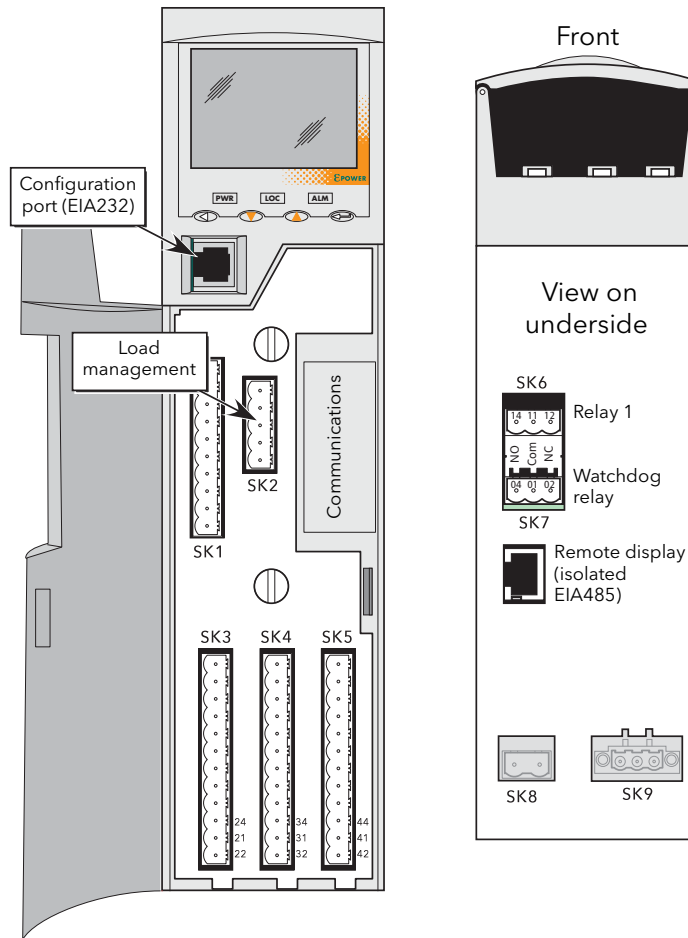
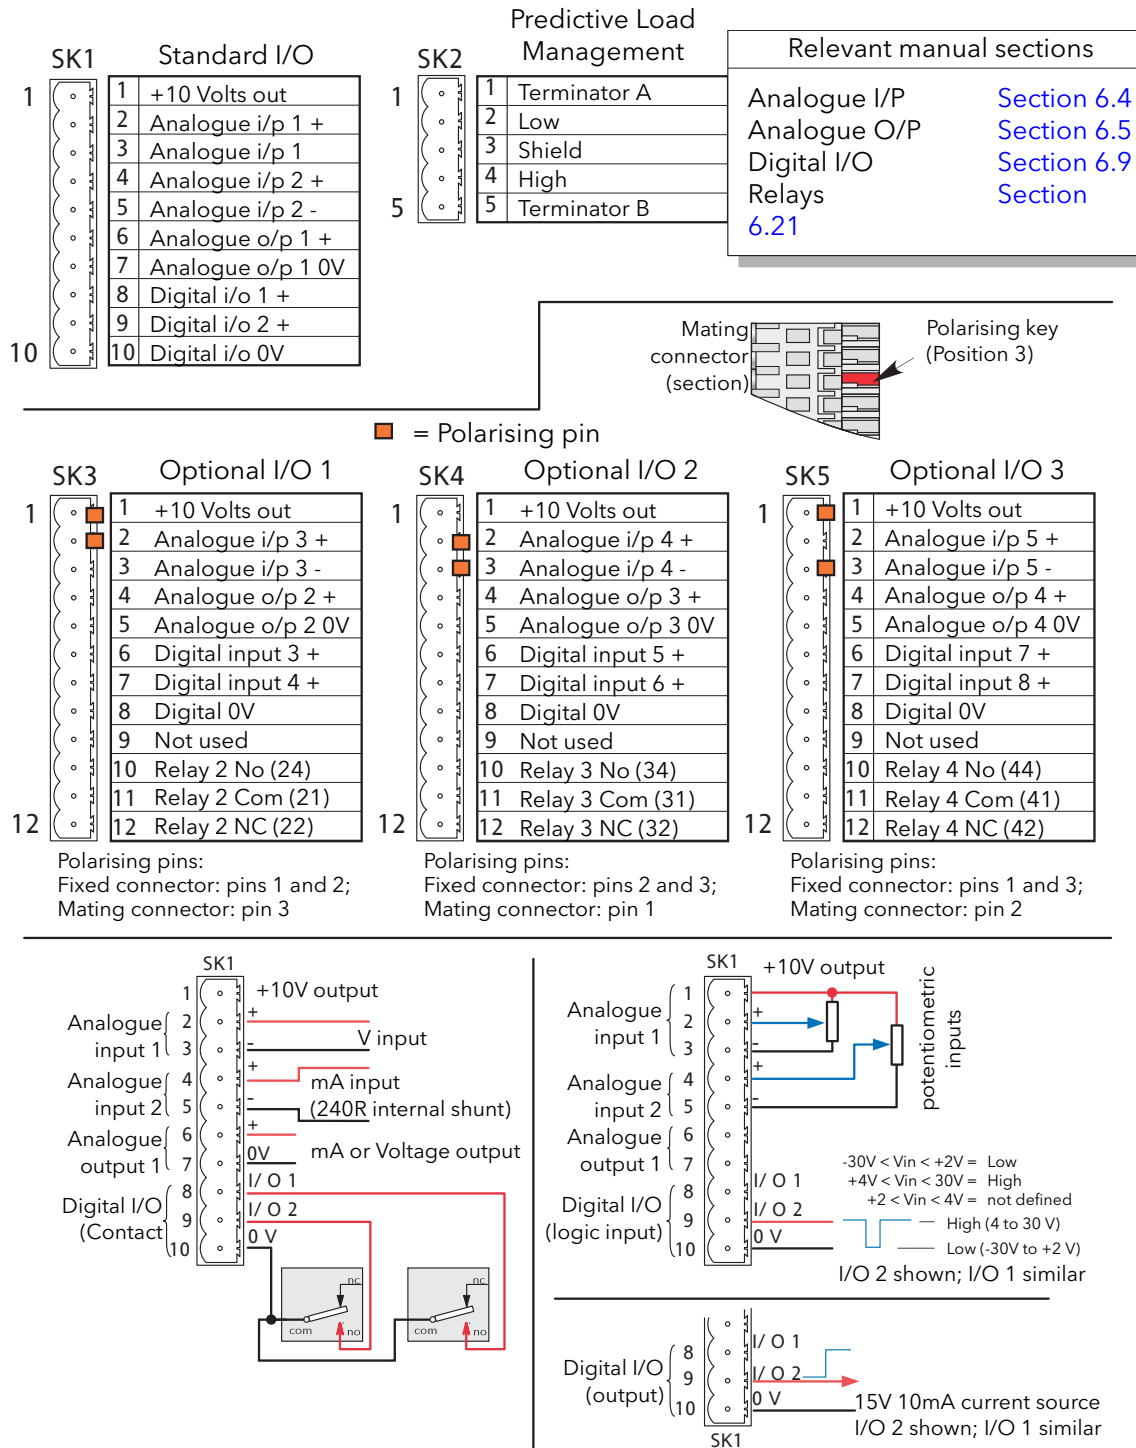
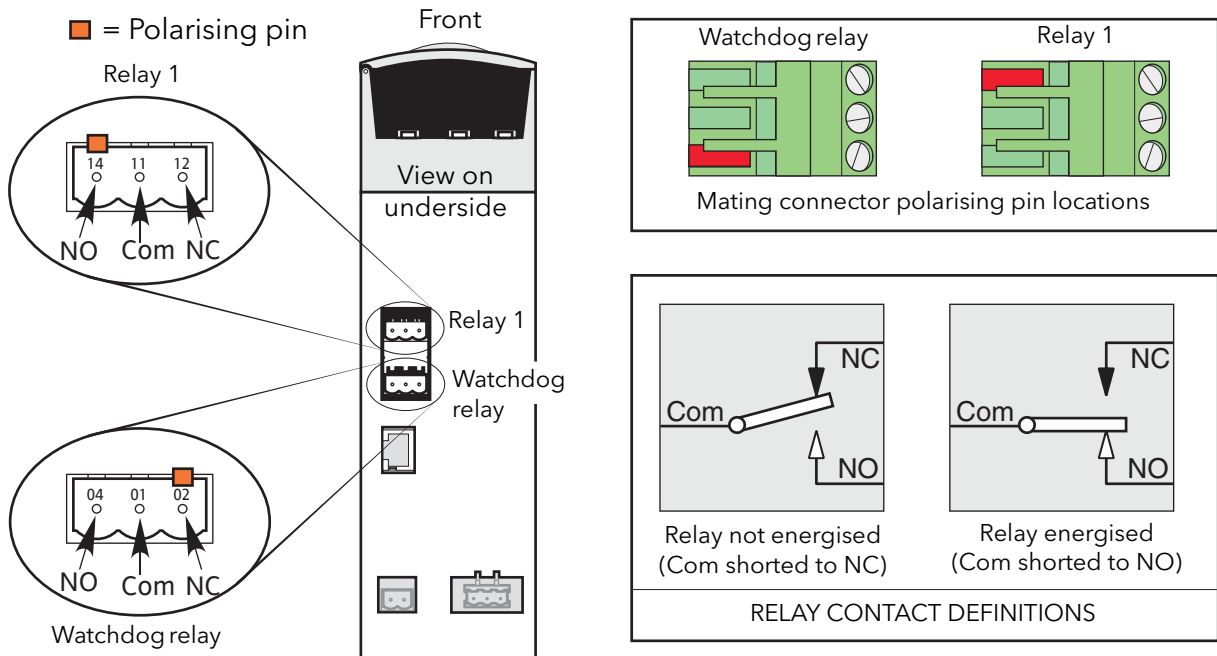

Figure 2.2.1b Connector locations
Figure 2.2.1c Drive unit connector pinouts
Figure 2.2.1d Relay connector location and pinout.
In order for the power module thyristors to operate, the Enable input to the driver module must be valid. In the default configuration, this is achieved by shorting pins 8 and 10 of SK1 (Digital input 1 - figure 2.2.1b), or by using a User Value block to apply a logic high to the enable input to the relevant firing block in iTools. If required, DI1 can be reconfigured as a voltage input, and in this case it requires a high signal (figure 2.2.1c) to be applied to SK1 pin8 with the relevant zero voltage connected to pin 10.
Figure 2.2.1b shows the location of the various connectors; pinouts and typical wiring for SK1 (fitted as standard) are shown in figure 2.2.1c. Wiring for optional I/O units (SK 3 to SK5) is similar, except that they contain a relay in addition to the analog and digital circuits, and the digital circuits are inputs only.
The 'watchdog' relay is wired to a connector on the underside of the Driver Module (figure 2.2.1d).
This relay, supplied as standard, is located adjacent to the watchdog relay (figure 2.2.1d). The energisation/de-energisation of the relay coil is under software control and is fully configurable by the user. The terms Normally open (NO) and Normally closed (NC) refer to the relay in its de-energised state. Up to three further relays are available if optional I/O Modules are fitted (see figure 2.2.1c).
This option allows a number of systems to communicate with one another to allow load management techniques such as Load Sharing and Load Shedding to be implemented. The connector is located as shown in figure 2.2.1b.
This RJ11 connector located on the front of the Driver Module (figure 2.2.1b) is used for direct connection to a PC using EIA232C standard.
Located on the underside of the driver module (figure 2.2.1b) this RJ45 connector supplies isolated 3-wire EIA485 outputs for an optional remote panel display unit. Figure 2.2.1n gives the pinout. See section 6.6.2 for configuration details. Parity is set to 'None'. See also Appendix A for details of a suitable remote panel unit.